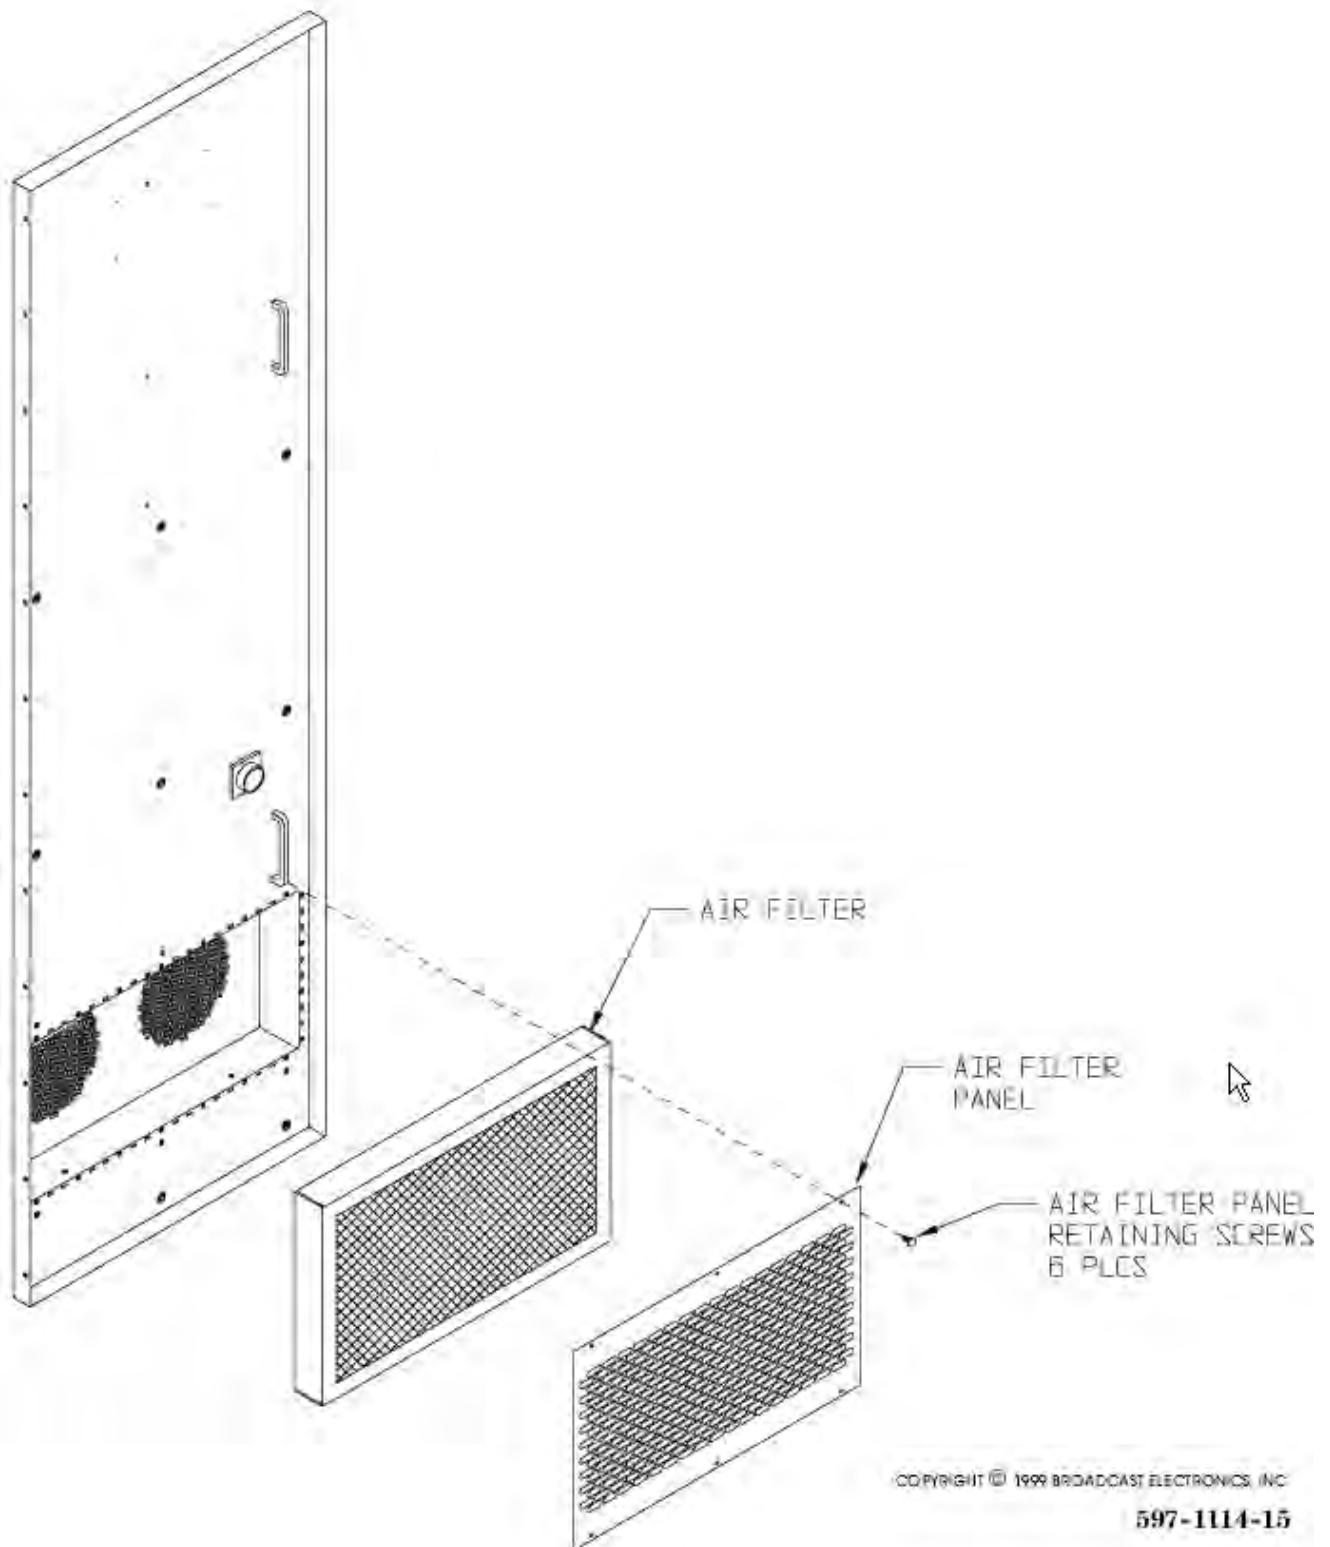

Figure 5-1: REMOVING THE AIR FILTER
**TRANSMITTER COMPONENT LOCATIONS.** Figure 5-1 and Figure 5-2 present transmitter component locations. Refer to Figure 5-1 and Figure 5-2 as required during the troubleshooting procedures to locate components within the transmitter.